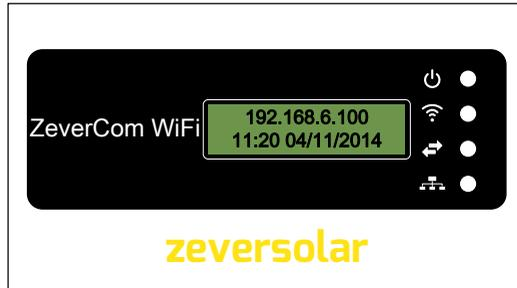
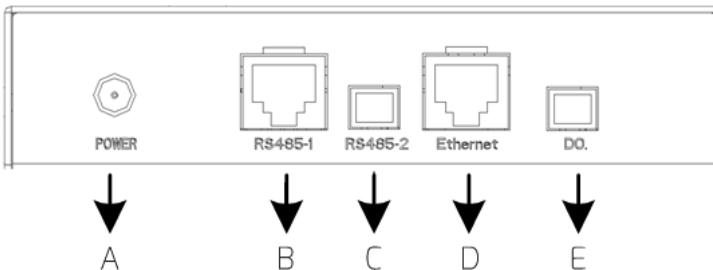
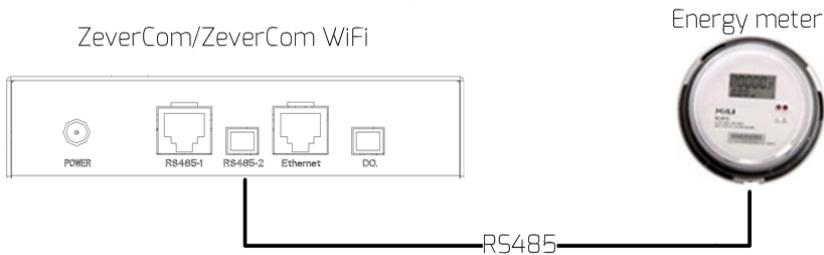
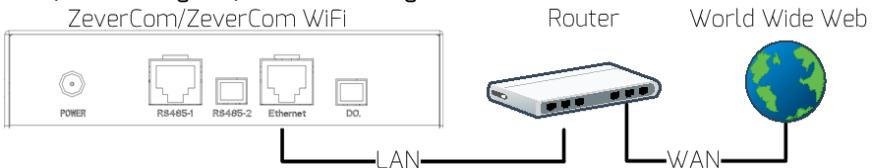

Fig. 3-1: LED indicator panel
Fig. 5-1: Overview of the connection area
Fig.5-5: Connection Energy Meter
Fig. 5-9: ZeverCom/ZeverCom WiFi linked network
The ZeverCom/ZeverCom WiFi displays the operating status to the user via LEDs. The LED indicator panel is showed in Fig.3-1.
Connect the power supply unit to the Power socket (Item A in Fig. 5-1). Plug the other end into a power outlet, and check that the power LED light turns on as shown in Fig. 3-1(LED indicator panel).
Step 2: Connect the inverter closest to the ZeverCom/ZeverCom WiFi to the RS485 port of the ZeverCom/ZeverCom WiFi (Item B in Fig. 5-1) as shown in Fig. 5-2.
1. The RS485 port between the ZeverCom/ZeverCom WiFi and the inverter (Item B in Fig. 5-1) uses the RJ45 socket. Please make sure to use the correct port.
The energy meter is connected to the RS485-2 port of ZeVerCom/ZeVerCom WiFi (Item D in Fig. 5-1), as shown in Fig. 5-5.
The ZeverCom/ZeverCom WiFi is connected to the network by simply connecting the network cable from the router to the Ethernet port of ZeverCom/ZeverCom WiFi (Item D in Fig. 5-1), as shown in Fig. 5-9.